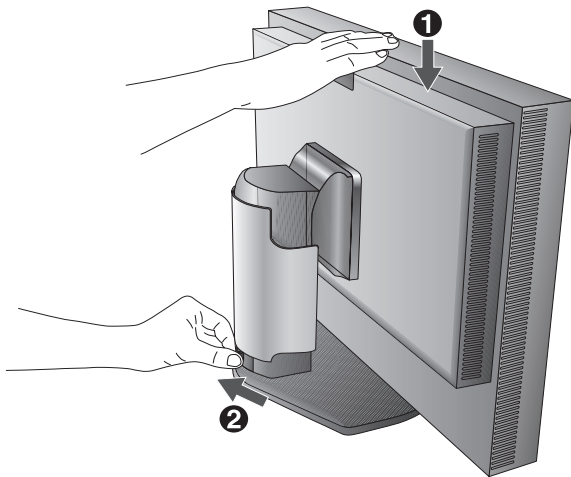

Figure B.1
3. Height adjustment is locked by lock button. Place hand on top of the monitor to push down the screen to the lowest position. Slide the lock button to unlock (**Figure B.1**).